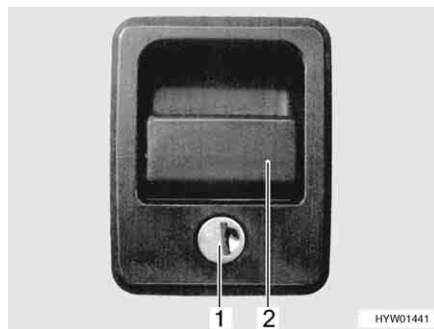

Fig. 41 Flap lock with recessed handle
- Opening:* ■ Insert key into locking cylinder (Fig. 41,1) and turn a quarter turn. The flap lock is unlatched.
- Pull on the lock handle (Fig. 41,2). The external flap is open.